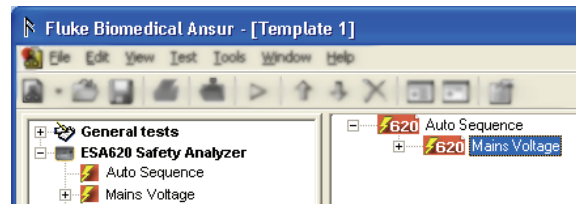

Figure 3-18. Adding Electrical Safety Tests to the Auto Sequence
- To add tests to the Auto Sequence, click and hold on the desired test in the Test Explorer window and drag it to directly over the Auto Sequence entry in the Template Window and release it. The Mains Voltage test is added to the Auto Sequence shown in Figure 3-18.